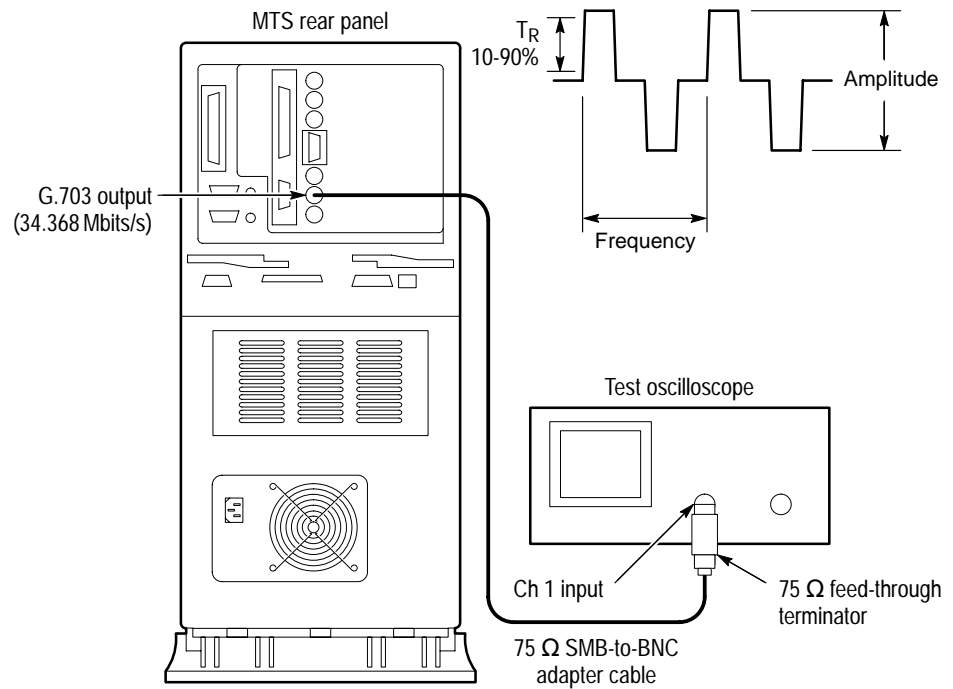

Figure 13: Setup for measuring the G.703 34.368 Mbit/s output
9. Check for a frequency of approximately 4.224 MHz, amplitude of approximately 5 volts, and rise time of approximately 4 ns. See Figure 13 for the location of the measurement points on the waveform.
10. Move the output cable to the G703, 34 M output. See Figure 13.
13. Check for a frequency of approximately 17.2 MHz, peak-to-peak amplitude of approximately 2.3 volts, and a rise time of approximately 3.8 ns. See Figure 13.